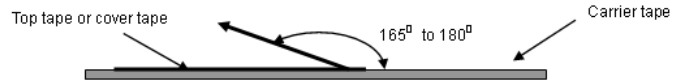

Fig. 9.1.3
- Peel-off angle: 165°~180°, refer to **Fig. 9.1.3**.